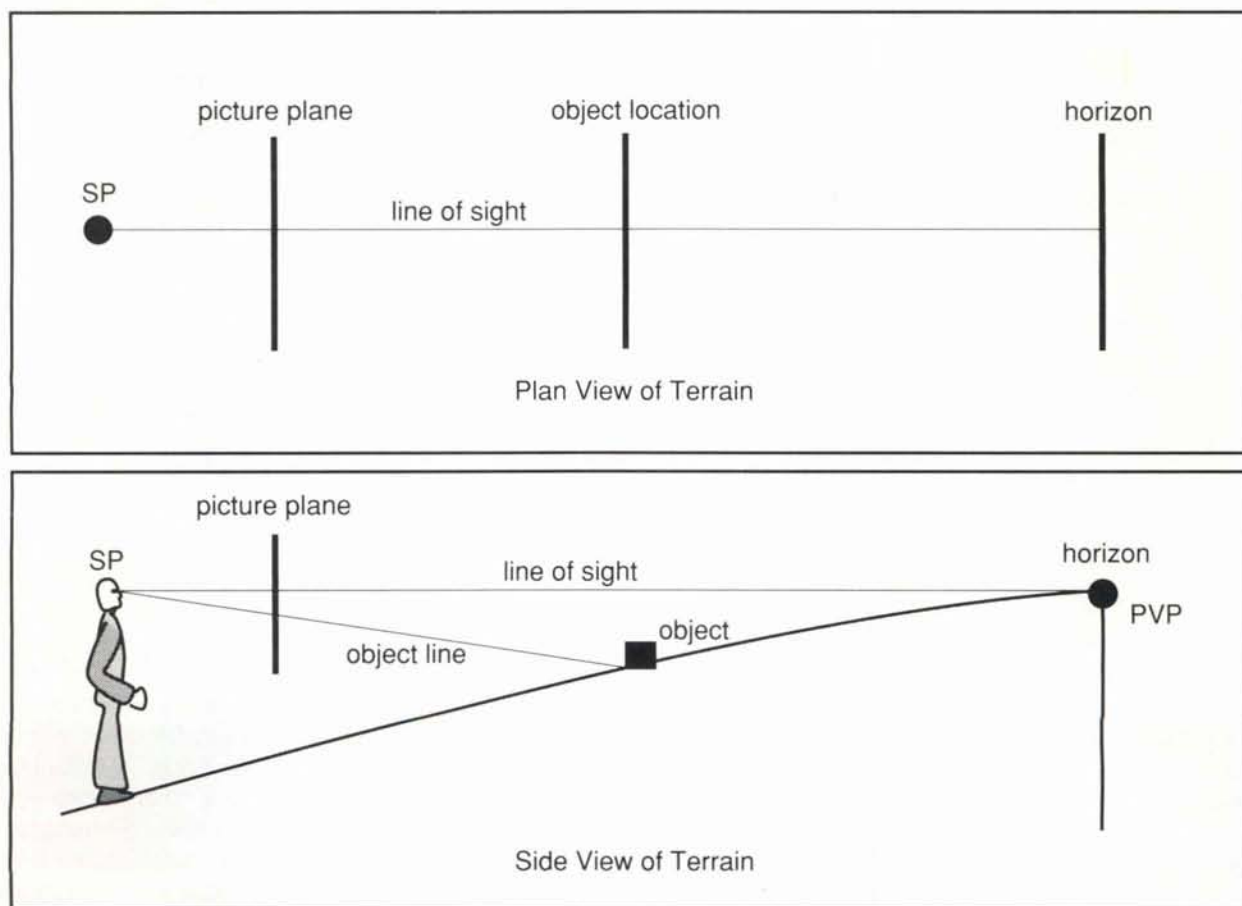

Figure 1. Determining the View
Figure 1 schematically shows the carver viewing a scene which he wants to carve in relief. The location of the carver's eye is known as the **station point (SP)**. If he is working from a photograph, this would be the camera location. In this figure we have shown both a plan view and a side view of the terrain. Since the earth is curved, the carver sees a horizon at his eye level. The point on this horizon that is